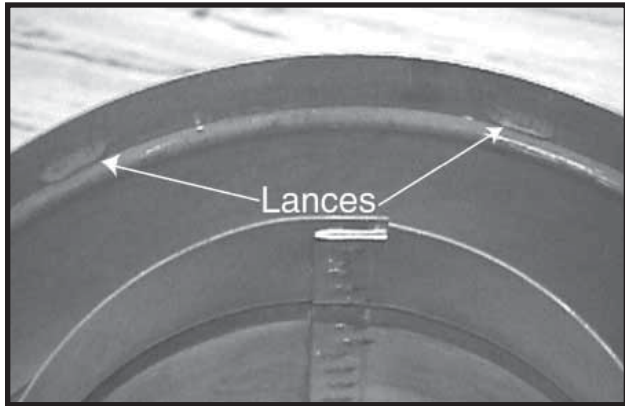

Figure 30.
- Slide the male end of the inner flue of the pipe section over the inner collar on the heater. At the same time, slide the outer flue over the outer collar on the heater. Push the flue section into the appliance collar until all the lances (see Figure 30) have snapped in place. Tug slightly on the flue to confirm that it has completely locked into place.